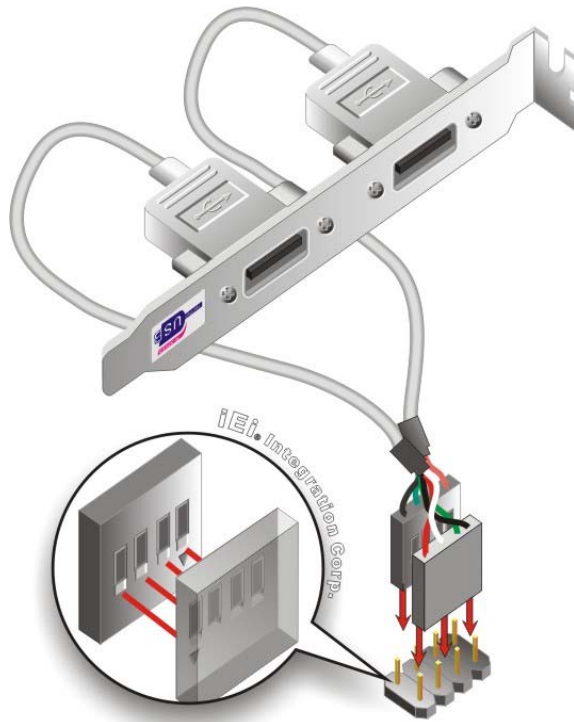

Figure 4-14: Dual USB Cable Connection
Step 3: Insert the cable connectors. Once the cable connectors are properly aligned with the USB connectors on the SPCIE-C2160, connect the cable connectors to the on-board connectors. See **Figure 4-14**.